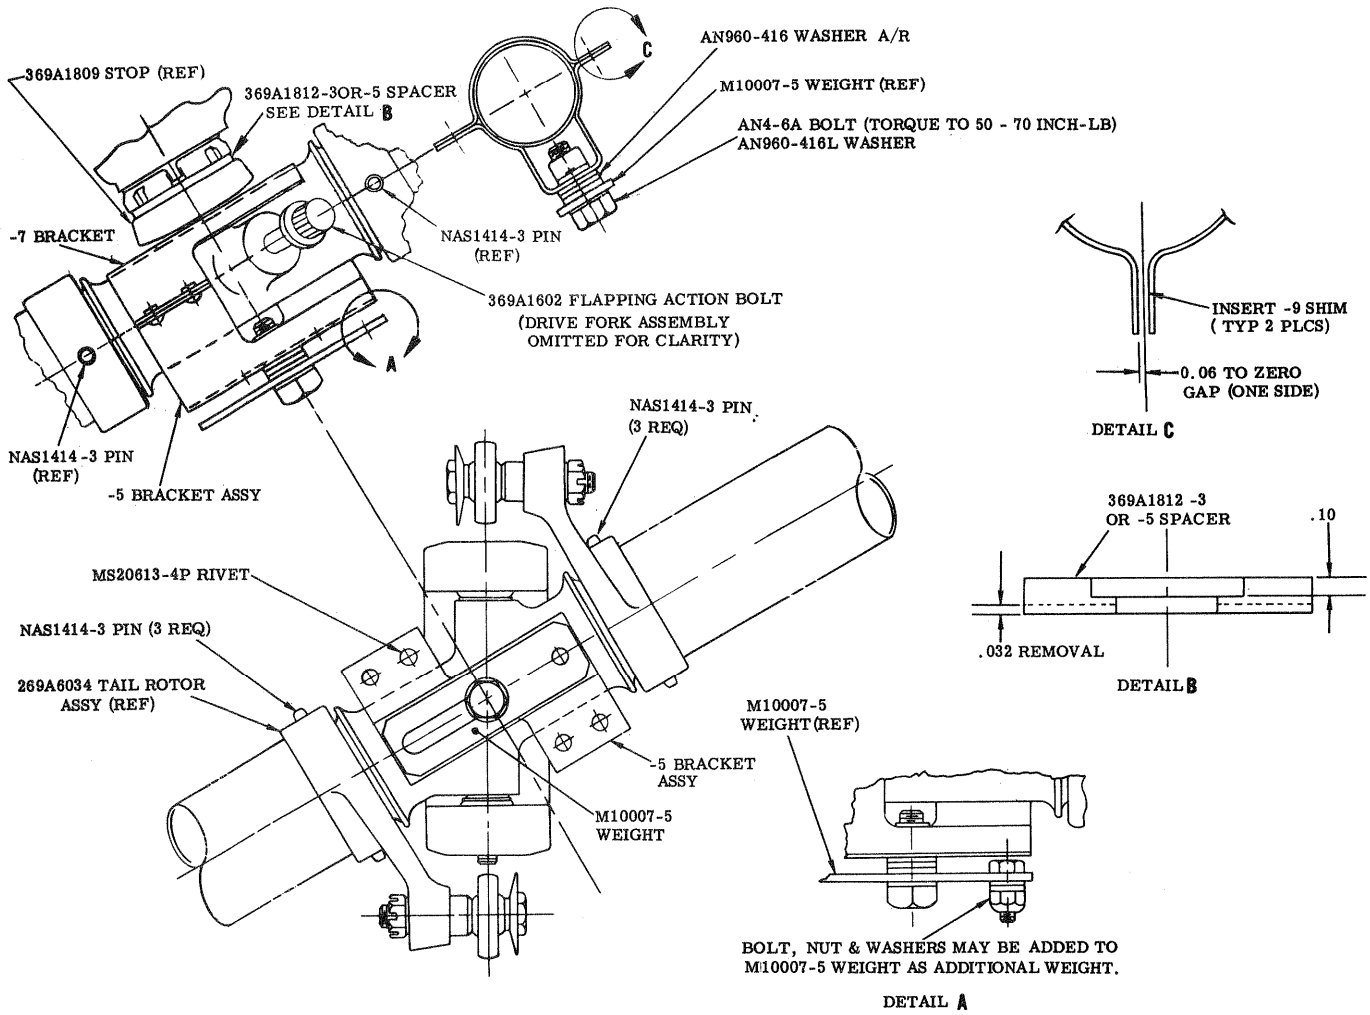

FIGURE 2. WEIGHT AND BALANCE ASSEMBLY, LOW TIP SPEED TAIL ROTOR
- h. Apply chromate etch solution to cadmium surface of tail rotor hub where -5 and -7 brackets are to be bonded (Refer to Figure 2); thoroughly rinse etched surface with clear water; air dry and wipe off with clean, lint-free cloth.
When positioning brackets on hub, align to center left of flapping action bolt, per Figure 2.